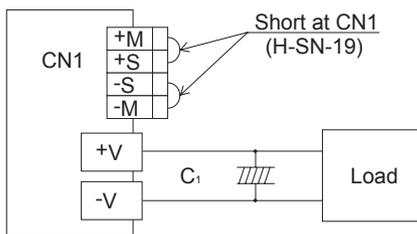
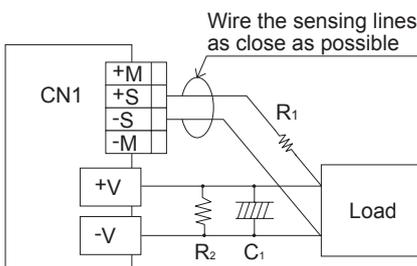

Fig.1.4 When not using remote sensing function
Fig.1.5 When using remote sensing function
- Please see Fig.1.4 if you do not use the remote sensing function. Please see Fig.1.5 if you use the remote sensing function.
- ① Wire carefully. When a connection of a load line becomes loose (due to such factors as loose screw), the load current flows to the sensing line and internal circuits of the power supply may be damaged.
- ② Use a sufficiently thick wire to connect between the power supply and the load and keep the line drop at 0.3V or below.
- ③ If the sensing line is long, connect C1 and R1.
- ④ Use a twisted pair wire or a shielded wire as the sensing line.
- ⑤ Do not draw the output current from +M, -M, +S or -S.
- ⑥ When the remote sensing function is used, the output voltage of the power supply may show an oscillating waveform or the output voltage may dramatically fluctuate because of an impedance of wiring and load conditions. Please check and evaluate carefully before using the remote sensing function.